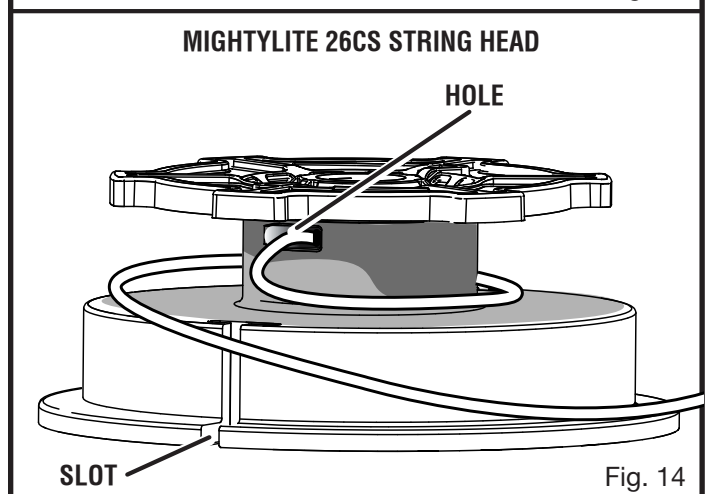

Fig. 14
- **For the MightyLite 26CS:** Cut one piece of trimmer line 9 ft. long. Find the hole in the center of the spool (figure 14). Insert one end of the line into the hole. Carefully wind the string in the direction indicated on the top of the spool. Nearing the end of the string, slide the end of the string into the nearest open slot on the spool. Do not overfill.